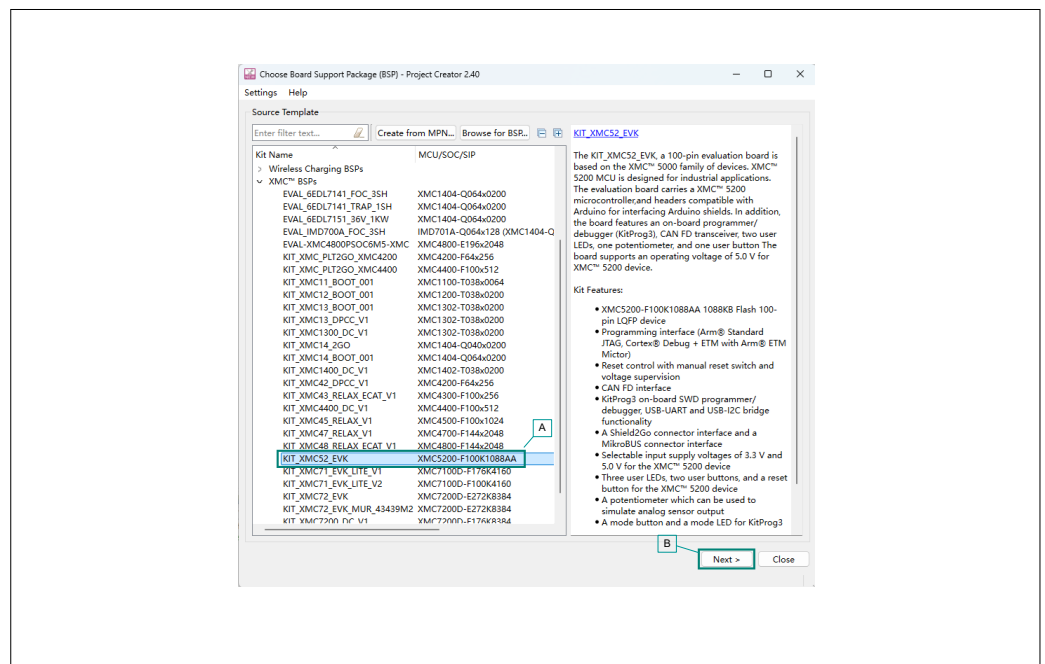

Figure 6 Choose target hardware
- In the **Choose Board Support Package (BSP)** dialog, choose the **Kit Name** that you have. The steps that are followed use **KIT_XMC52_EVK**, as shown in Figure 6